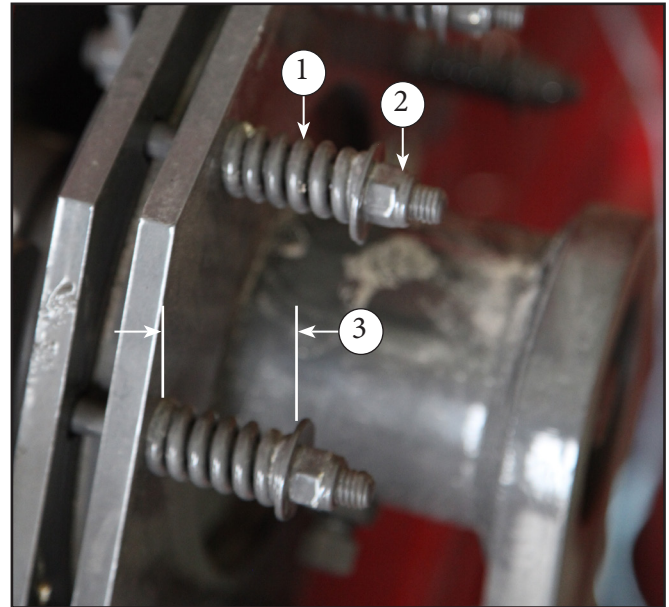

FIG. 123
- FIG. 123:** Knotter Brake
(1) Knotter Brake Springs
(2) Brake Adjustment Nuts
(3) Spring Length